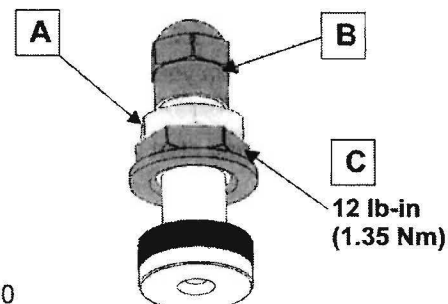

Fig. 10
4. Refer to Fig. 10. On Type 2 valve stems (with no holding slot) tighten upper nut (A) to stem cap (B).
5. Hold nut (A) to prevent valve stem rotation, and torque lower stem nut (C) to 1.35 Nm (12 lb-in) using an open end torque wrench.